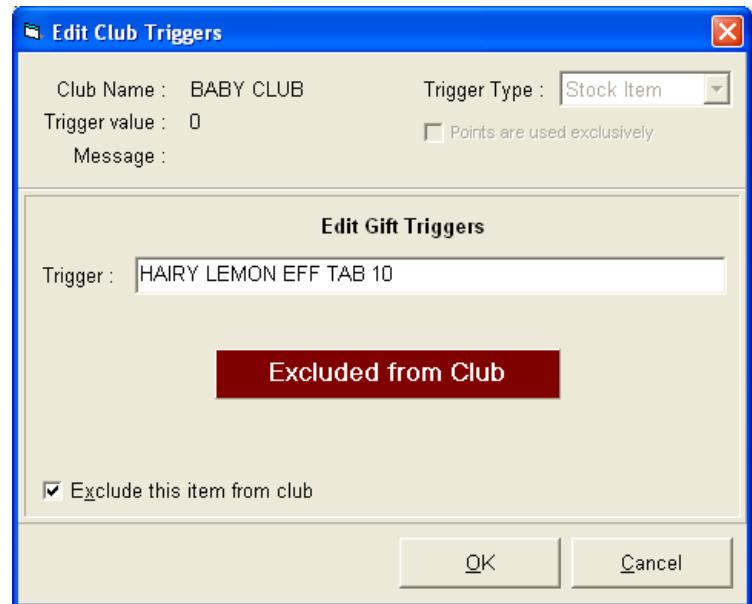

Figure 376
10. When adding any trigger to a club you will notice the option called 'Exclude this item from club' (see Figure 376). Ticking this option permits you to exclude a particular trigger from a club. For example you may want to exclude 'Hairy Lemon' from earning points.